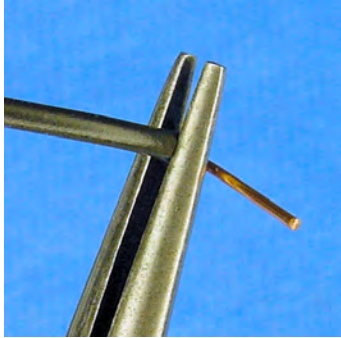

Figure 12-21. Bending wire with the help of needle-nose pliers
4. You can bend the wire into the desired shape with your hands. However, holding the wire in the tip of needle-nosed pliers and bending against the flat edge can achieve nice square corners (see Figure 12-21).